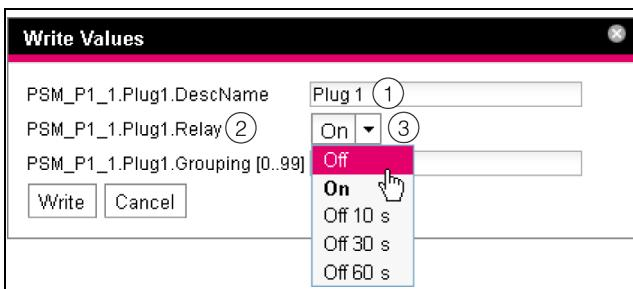

Fig. 28: Performing switch commands
DescName	The specific description that was assigned to the output or the socket (fig. 28, item 1).
Command	The command to be performed. The following commands are supported: "Off", "On", "Off 10 s", "Off 30 s", "Off 60 s" (fig. 28, item 3).
Device	The device index (ID number) that is pre-fixed to the associated Real Device in the navigation area of the CMC III PU website (fig. 28, item 2).
Command	The command to be performed. The following commands are supported: "Off", "On", "Off 10 s", "Off 30 s", "Off 60 s" (fig 28, item 3).